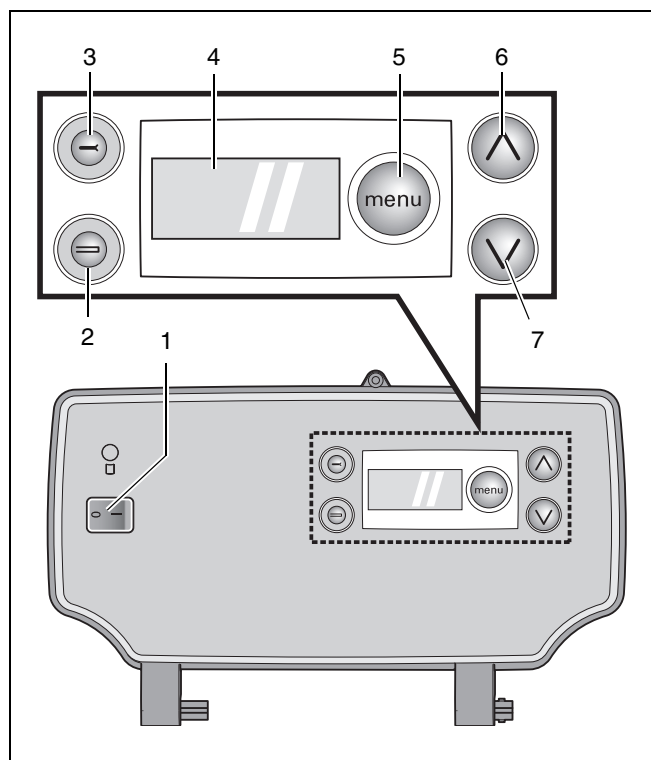
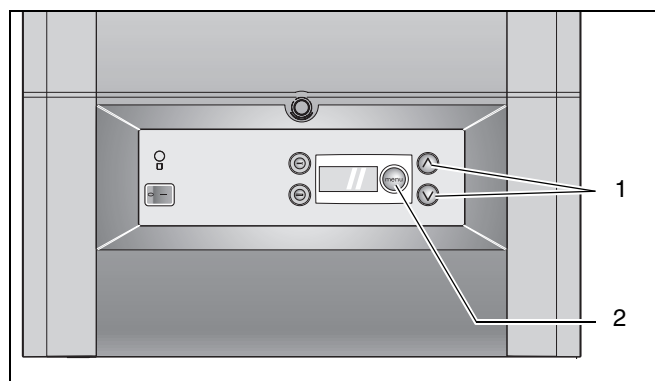

fig. 42 DBA
fig. 47 DBA – adjusting arrows
1. Mains switch (see fig. 42)
2. Reset button "B" (see fig. 42)
- item 1: mains switch
- item 2: "reset" button
- item 3: "service" button
- item 4: display
- item 5: "menu" button
- item 6: adjusting arrow up
- item 7: adjusting arrow down
3. Service Button "A" (see fig. 42)
4. Display (see fig. 42)
5. Menu button "E" (see fig. 42)
6. and 7. Up "C" and Down "D" keys (see fig. 42)
- Press E button twice then adjust the DHW temperature to the desired temperature (40 °C - 60 °C) using the C and D keys (see fig. 47, item 1). Factory setting is 48 °C.
- Press the E button (see fig. 47, item 2) three times.
- Press E button (see fig. 47, item 2) four times then adjust the flow temperature to the desired temperature (30 °C – 80 °C) using the C and D keys (see fig. 42, item 1). Factory setting is 80 °C.